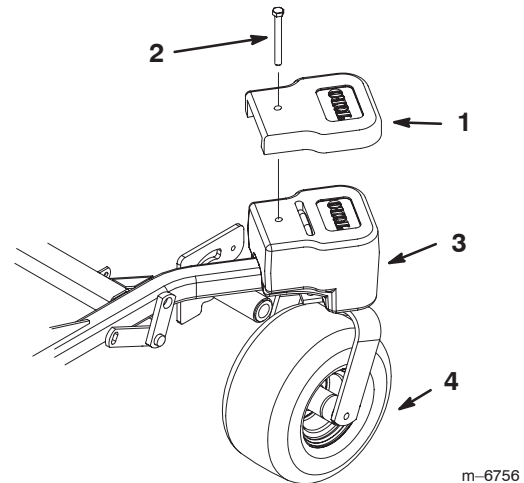
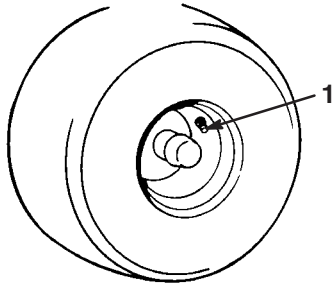

Figure 19
Figure 20
1. Install the top weight on top of the caster weight with a bolt (1/2 x 3 inch) (Fig. 19).
Check and increase the air pressure in the front caster wheels (Fig. 19) and rear tires (Fig. 20).